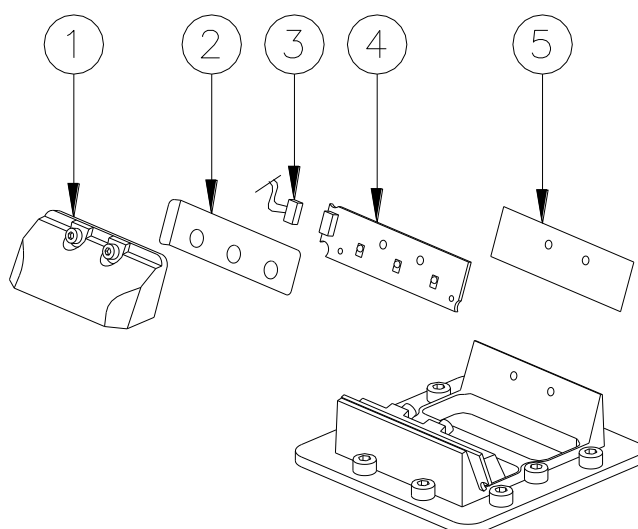

Figure 26 – LED Module Replacement
- disconnect the power supply connector from the LED module (Figure 26 – n°3)
- remove the LED module (Figure 26 – n°4) and the relevant reflector (Figure 26 – n°1) from the mounting plate unscrewing the two screw HSCS M3x16
- check that the thermal interface (Figure 26 – n°5) is placed under the LED module and right-positioned
- check that the Kapton insulating sheet (Figure 26 – n°2) is placed over the LED board is lying down and right-positioned
- reconnect the power supply connector (Figure 26 – n°3) to the LED module